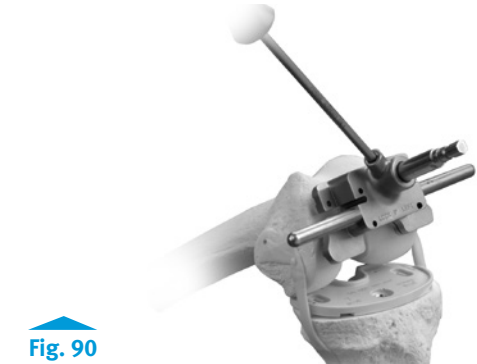

Fig. 90
- Check to ensure the proper "Left" or "Right" LCCK 6° Distal Femoral Guide is contacting the distal femur, and use the 3.5mm Hex-head Screwdriver to secure the femoral guide to the reamer or provisional assembly (Fig. 90).
For additional stability, insert 27mm Hex-head Screws through the femoral guide (Fig. 90).